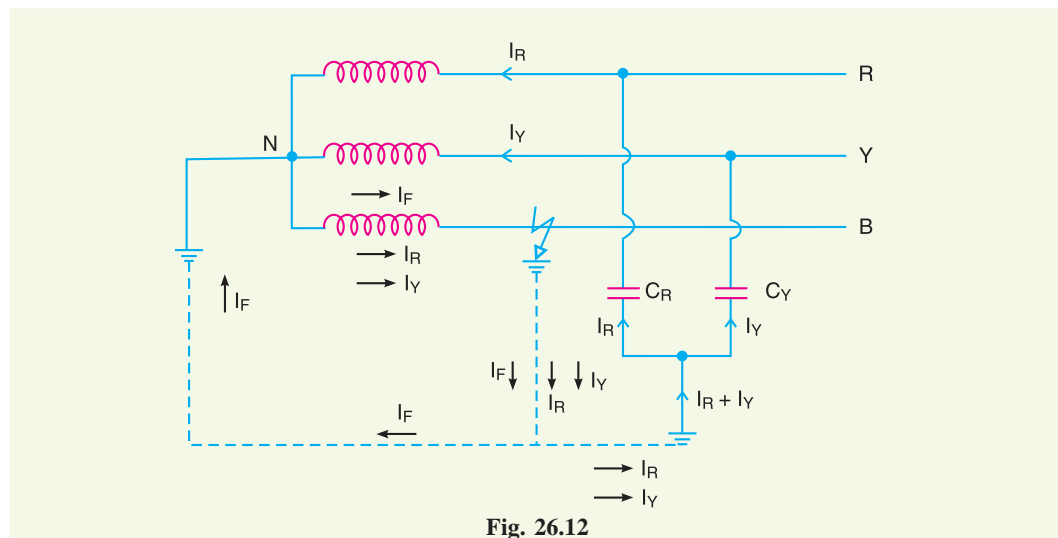

Fig. 26.12
- (ii) When earth fault occurs on any phase, the resultant capacitive current  $I_C$  is in phase opposition to the fault current  $I_F$ . The two currents completely cancel each other. Therefore, no arcing ground or over-voltage conditions can occur. Consider a line to ground fault in line  $B$  as shown in Fig. 26.12. The capacitive currents flowing in the healthy phases  $R$  and  $Y$  are  $I_R$  and  $I_Y$  respectively. The resultant capacitive current  $I_C$  is the phasor sum of  $I_R$  and  $I_Y$ . In addition to these capacitive currents, the power source also supplies the fault current  $I_F$ . This fault current will go from fault point to earth, then to neutral point  $N$  and back to the fault point through the faulty phase. The path of  $I_C$  is capacitive and that of  $I_F$  is inductive. The two currents are in phase opposition and completely cancel each other. Therefore, no arcing ground phenomenon or over-voltage conditions can occur.